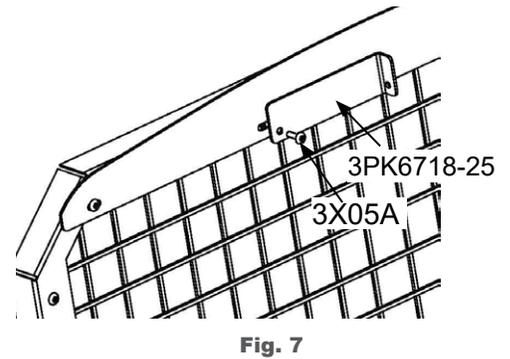

Fig. 7
- B. Fasten divider barrier bracket (3PK6718-25) at top of barrier as shown, by removing supplied bolt and replacing with longer kit bolt (3X05A). (Fig. 7)